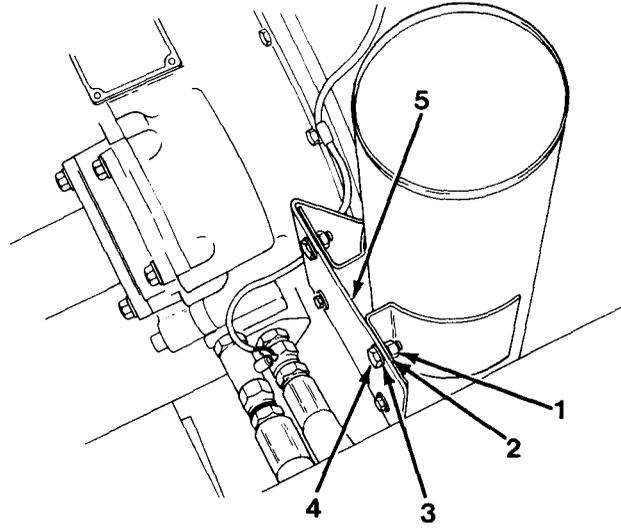

Figure 8-1
6. Install four capscrews (4), washers (3), lock-washers (2) and nuts (1) to bracket (5, Figure 8-1).